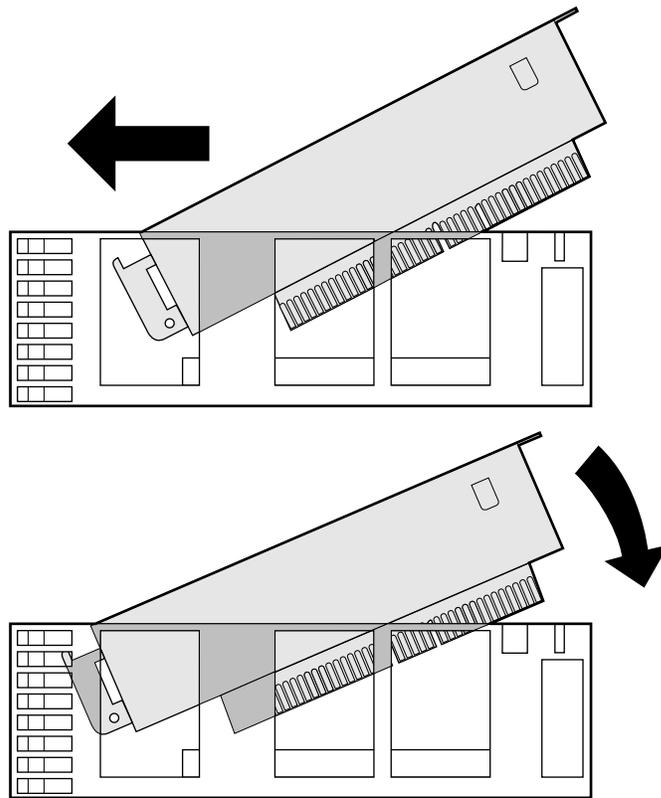

Figure 1-18 Replacing the PCI Tray in the System Module Viewed From the Side
2. Reinstall the PCI tray in the system module (Figure 1-18).